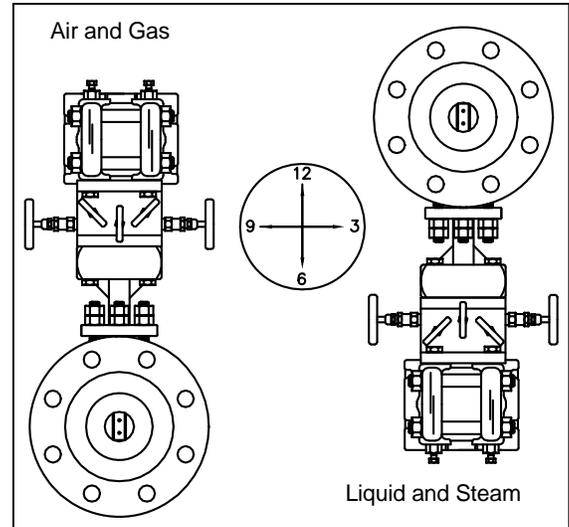

Figure 1. Accelabar Orientation in Horizontal
For air or gas applications, mount the Accelabar directly to the top of the pipe in the 12 o'clock position. For liquid and steam applications, mount the Accelabar directly to the bottom of the pipe in the 6 o'clock position (see Figure 1). Deviation from these locations may cause inaccuracy in the flow measurement.
- Refer to Figure 1 for proper Accelabar orientation for horizontal applications (orientation is not critical for vertical applications).